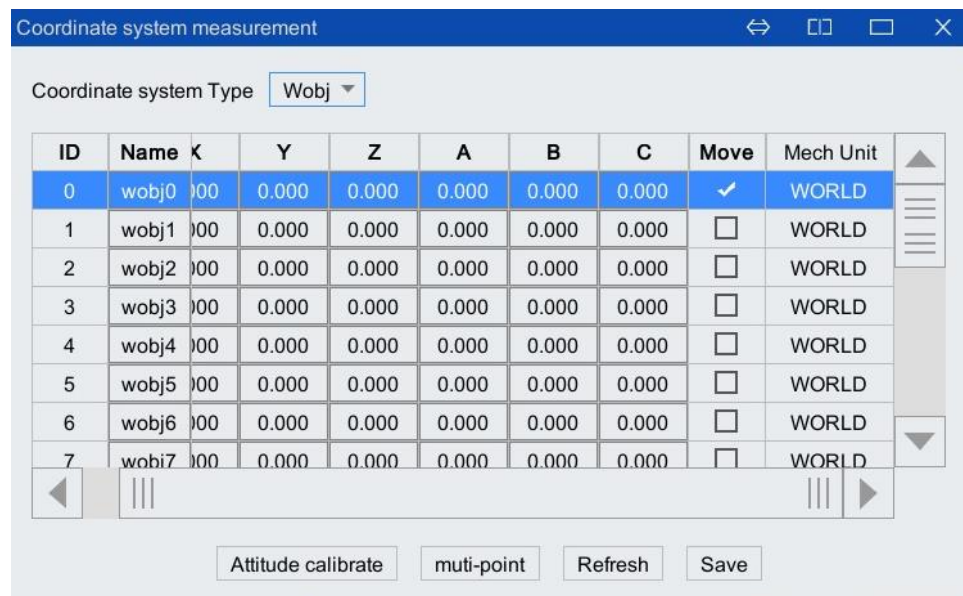

Figure 5-78 "Move Workobject Coordinate System" interface
Step1.If the coordinate system of the moving workobject to be calibrated is wobj1, check the <Move> button in the row where wobj1 is located, and ✓ is displayed after checking, as shown in Figure 5-78. Click the mechanical unit box corresponding to the row of wobj1, and a drop-down list will pop up, as shown in Figure 5-78. Optional WORLD or R1. When WORLD is selected, it means that the workobject coordinate system is calibrated relative to the world coordinate system. When R1 is selected, it means to calibrate the workobject coordinate system relative to the base coordinate system of the robot.
Step5.After all calibrations are successful, click the <Calculate> button at the bottom of Figure 5-78 to calculate the error. If it exceeds the error range, the "Calibration failed, please re-measure!" prompt box as shown in Figure 5-